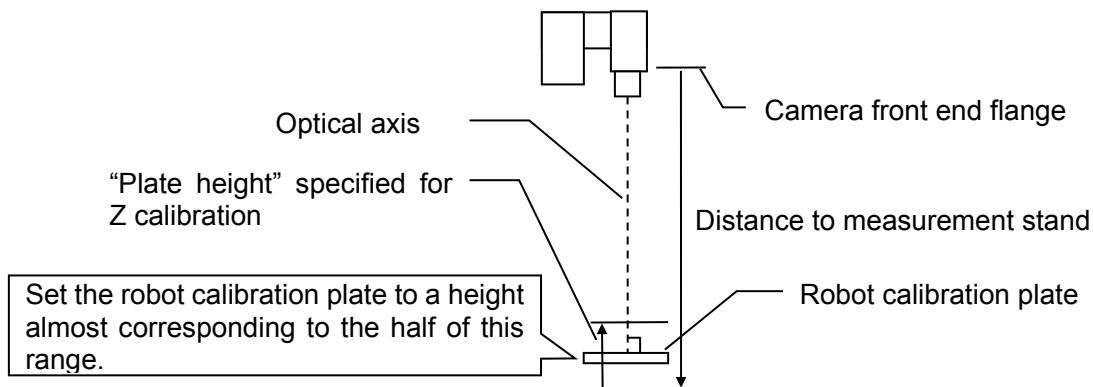

Fig. 7-65 Distance to robot calibration plate
Do not change the height of the camera lens and the robot calibration plate for teaching of the calibration postures (2) to (6) from the height used for the posture (1). For the calibration postures (7) and (8), ensure that the height of the robot calibration plate is kept within the range shown in Fig. 7-65.
(1) to (5): Move in the XY-axis direction and align with the teaching guide. Do not change the A, B, or C components.
(7), (8): After moving to (5), move the A-axis ±20°, and then move the XY-axis to align it with the teaching guide.
- For teaching of the calibration postures (2) to (6), do not change the height of the camera lens and robot calibration plate for the position taught at the posture (1). For the calibration postures (7) and (8), ensure that the height of the robot calibration plate is kept within the range shown in Fig. 7-65.
- When teaching the calibration postures (2) to (8), it is easy to align the calibration jig with the teaching guide by jog operation after moving to the position of the taught calibration posture (1).
- With the calibration postures (7) and (8), tilt the robot by approximately 20° if there is sufficient space within the movement range. Tilt by approximately 15°, however, the robot movement range is insufficient.